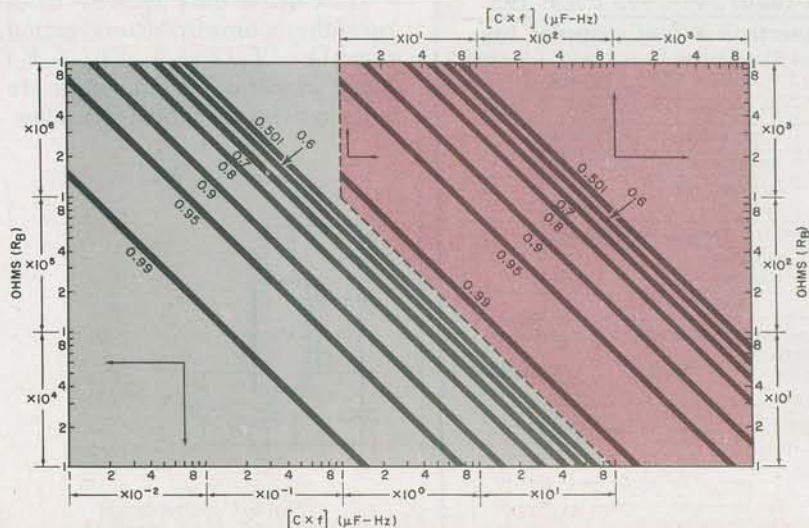
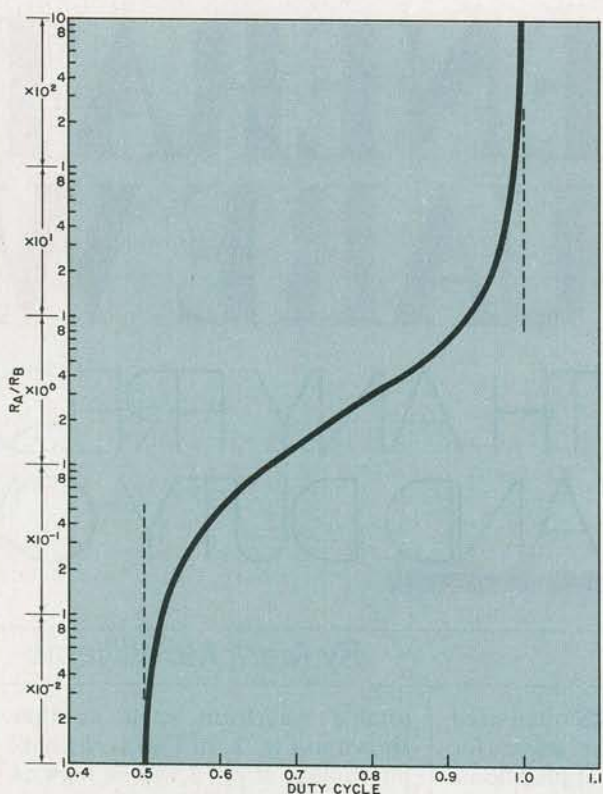

Fig. 3. Plot of  $C \times f$  vs.  $R_B$ , which can be used with Fig. 4 to determine circuit values.
Fig. 4. Duty cycle vs. resistance ratio  $R_A/R_B$  based on Eq. (A).
from equation (B) or Fig. 3,
from equation (A) or Fig. 4,
These two equations are presented graphically in Fig. 3 and Fig. 4. For convenience in plotting,  $C$  and  $f$  were combined to form one variable,  $C \times f$ . In the plots, the units of  $C \times f$  are ( $\mu F$  - Hz) and  $R_B$  is in ohms.